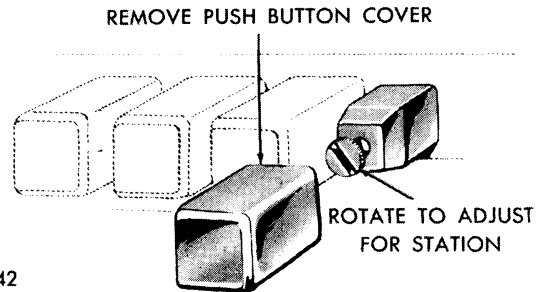

Fig. 10—Push-Button Adjustment (Model 902)
Push-button tuning is accomplished by firmly pressing one of the push-buttons which automatically selects the station for which it was set. (See Fig. 10.)
8. STATION PUSH-BUTTON ADJUSTMENT (Model 902) (Fig. 10)